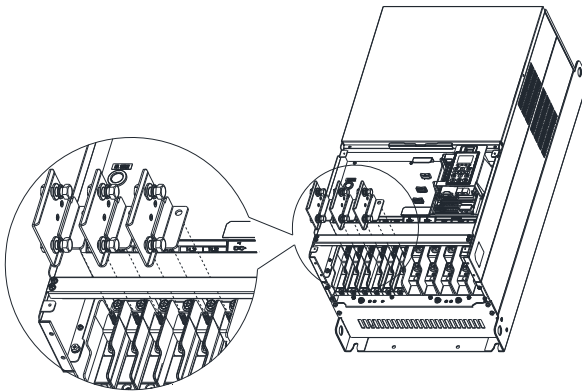
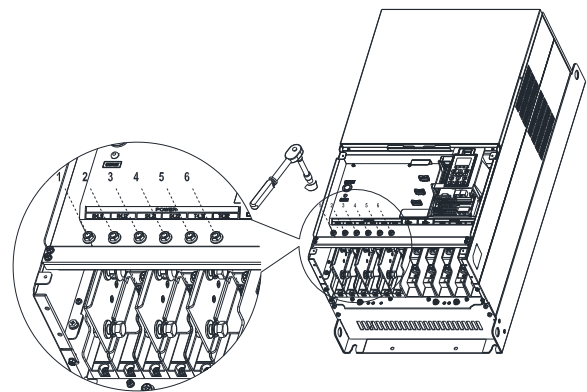

Figure 1
Figure 2
4. Install the 3pcs copper assy., as shown in the following figure 1. Fasten the upper M8 nuts (1~6) with a sleeve wrench (12mm of the sleeve), as shown in the figure 2 below.